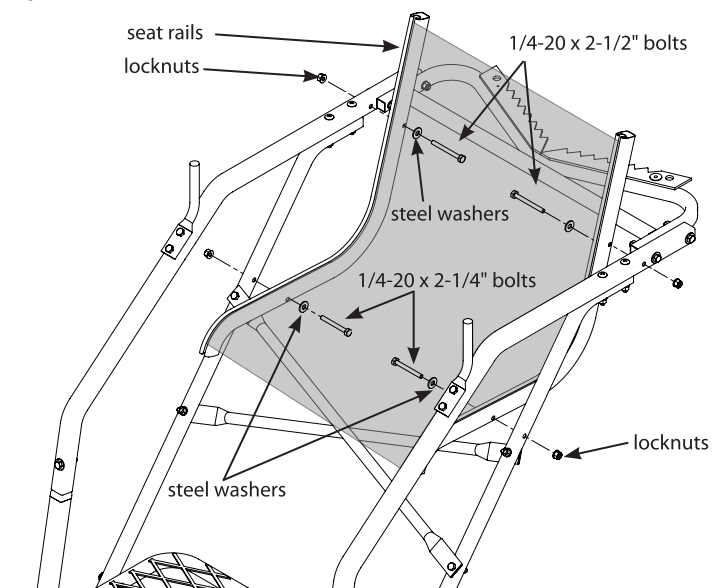

Figure 7
- a. Using (2) provided 1/4-20 x 2-1/2" bolts, locknuts and steel washers, attach the upper portion of each seat rail to the main side rails. **SEE FIGURE 7.** It is important to have the bolt head on the seat rail side and the locknut on the main side rail side for ease of assembly. **FINGER TIGHTEN THESE TWO BOLTS ONLY AT THIS TIME.**
- b. Using (2) provided 1/4-20 x 2-1/4" bolts, locknuts and steel washers, attach the lower portion of each seat rail to the upper ladder support tubes. **SEE FIGURE 7.** It is important to have the bolt head on the seat rail side and the locknut on the upper ladder support tube side for ease of assembly.